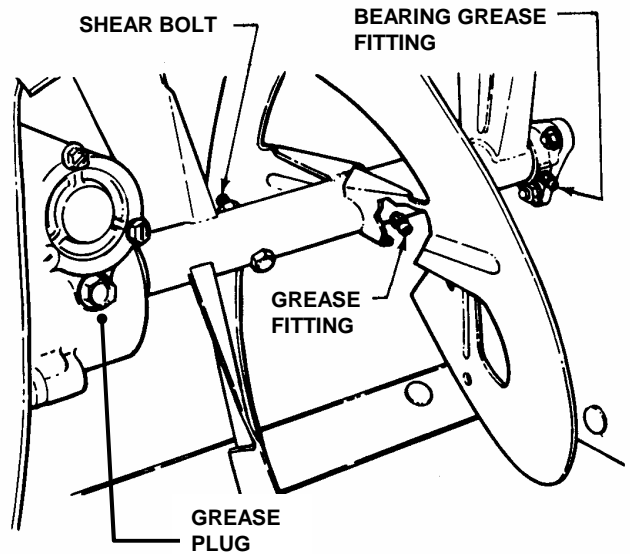

FIGURE 3.3
1. Before each season of operation, apply two shots of grease from a grease gun into gear case. Use Benelene 900 or equivalent grease. The grease plug for the gear case is located in front of the gear case. See Figure 3.3.
2. Before each season of operation, apply two shots of from a grease gun into auger bearing. Use Benelene 900 or equivalent grease. The grease fitting for the auger bearing is located on each end of the auger. See Figure 3.3.
3. Before each season of operation, apply two shots of general purpose grease from a grease gun into the auger shaft. The grease fitting for the auger shaft is located in the middle of each auger. Remove shear bolts and rotate auger to distribute grease evenly around shaft. Reinstall shear bolts and nuts. Tighten to 5 to 10 ft. lb. of torque. See Figure 3.3.